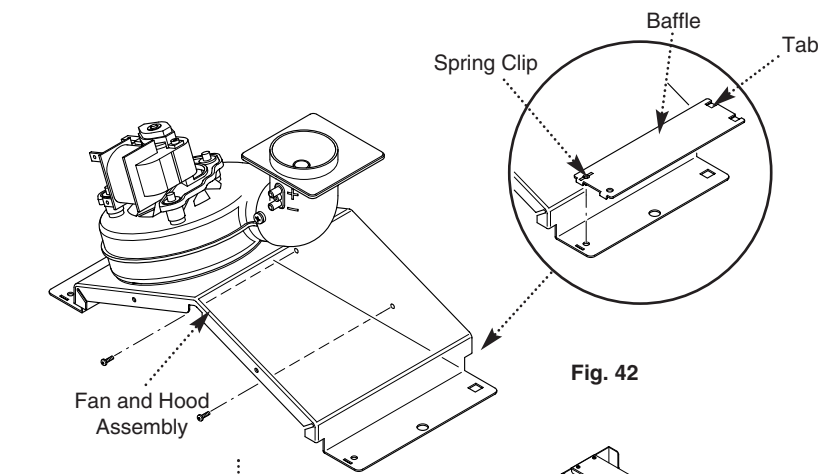

Fig. 42
11. Remove the spring clips retaining the air box side baffle plates. Disengage the tabs on the baffles from the slots in the fan hood (Fig. 42).